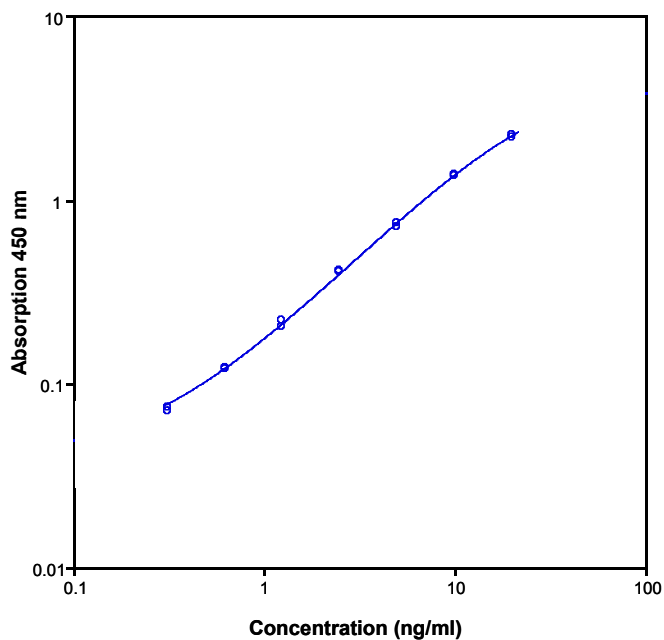

Fig. 7 Representative standard curve for human IL-2R ELISA. Human IL-2R was diluted in serial 2-fold steps in Sample Diluent.
- A representative standard curve is shown in Figure 7.